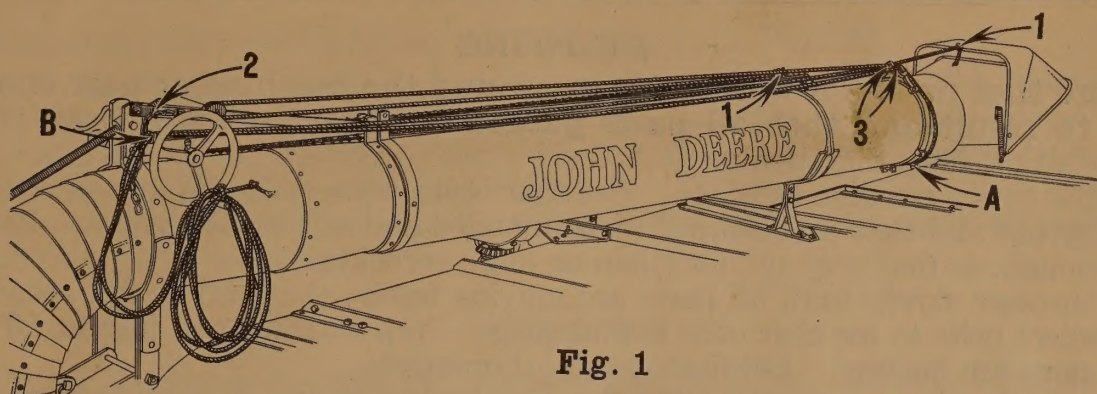

Fig. 1
1. (Fig. 1.) Cut off a 20-foot length from rope packed in tool box. Tie one end of rope to rear of hood, run loose end through pulley and tie to fourth link from outer end of telescoping drive chain as shown.
2. (Fig. 1.) Hook chain on pulley to bracket as shown. Hood can be raised or lowered by adjusting chain.
3. (Fig. 1.) Secure center of long piece of rope to loop at "A" on under side of hood. Run loose ends through sheaves on top of hood and secure in holder "B". This rope will turn hood from right to left.